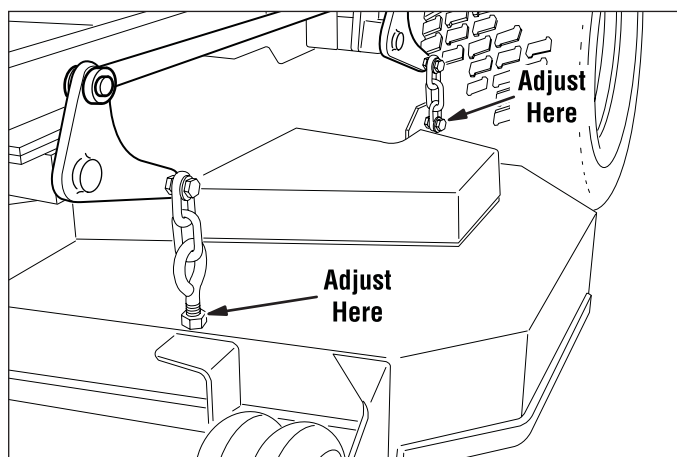

Figure 18. Hanger Chain Adjustment
6. Adjust the front eyebolts until the chains are tight and the deck is still resting on the 2 x 4's. Tighten the jam nuts. See Figure 18.
7. Loosen the nuts and allow the rear of the deck to rest on the 2 x 4's and 1/4" spacers. Slide the chains down in the slots until the chains are tight and tighten the nuts. See Figure 18.